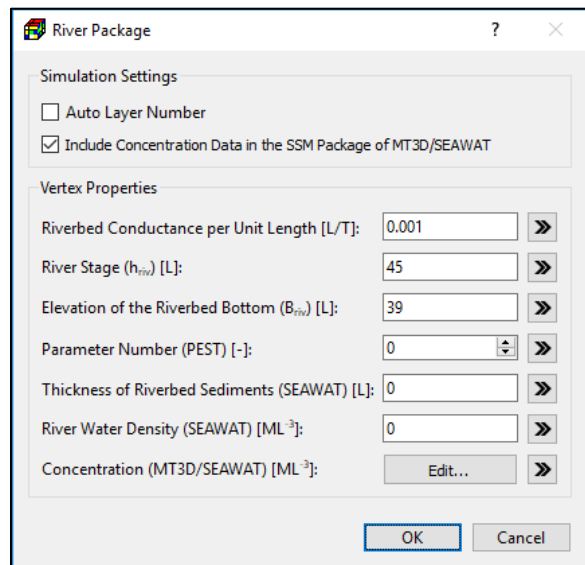

Figure 63. The River Package dialog box for specifying vertex properties
3. **Polyline input method:** Figure 63 shows a dialog box for specify data to one or more vertices of a polyline. The specified vertex data may be interpolated to model cells following the rules described in Section 3.3.2.2 and the rules below.